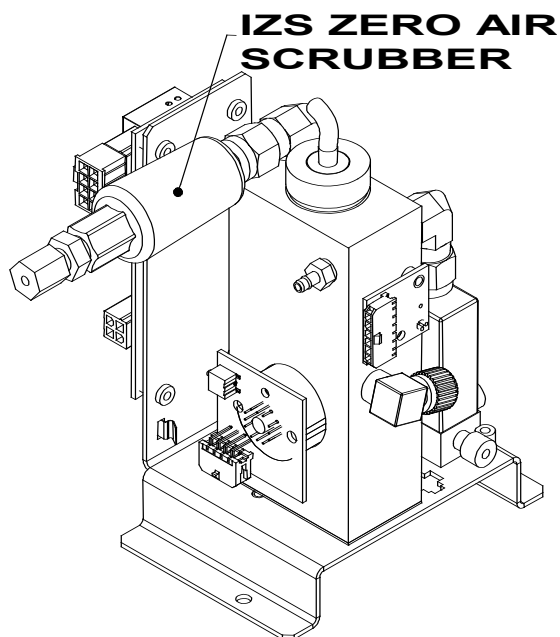

Figure 5-17. IZS O₃ Generator Zero Air Scrubber Location
3. The IZS zero air scrubber is attached to the brass elbow inlet fitting on the top of the O₃ generator assembly. See Figure 5-17.